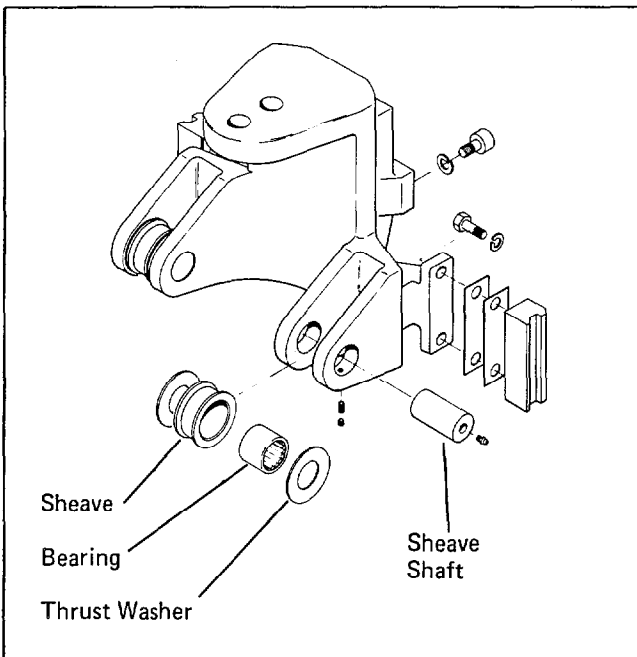

Figure 4-9 Crosshead
8. Inspect the crosshead wear shoes for excessive wear. If, during reassembly, the crosshead requires more than four shims behind each wear shoe to tighten it to specifications, the wear shoes must be replaced. See figure 4-9.